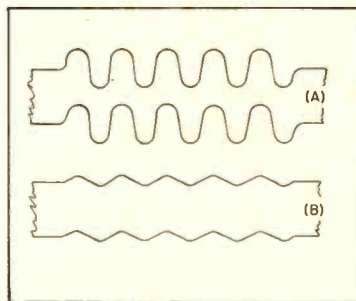

Fig. 2. (A) High-frequency signal recorded at 100% modulation on constant-amplitude basis. (B) Same signal recorded on constant-velocity basis.
ture" type of recording. At high frequencies, however, the stylus would have to make very sharp reversals, as shown at (A) in Fig. 2, with a resultant high velocity. As a matter of fact, it is doubtful if any stylus could follow such a groove at 10,000 cps. At constant velocity of stylus-tip movement, the groove would be more like (B) of Fig. 2. Practically, therefore, the groove is most usually cut with constant amplitude up to some intermediate frequency—generally somewhere between 250 and 800 cps—and at decreasing amplitude but at constant velocity above this frequency, which is known either as the transition frequency or the turnover frequency.